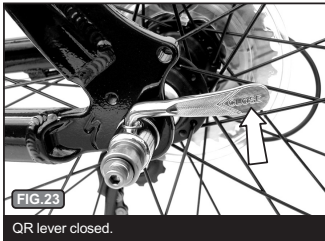

FIG. 23
**F)** Move the QR lever until "CLOSE" is visible on the lever, Fig. 23, and it is parallel to the frame. **IMPORTANT:** For highest strength, it should require considerable pressure to close the QR lever when it is properly adjusted and tightened.